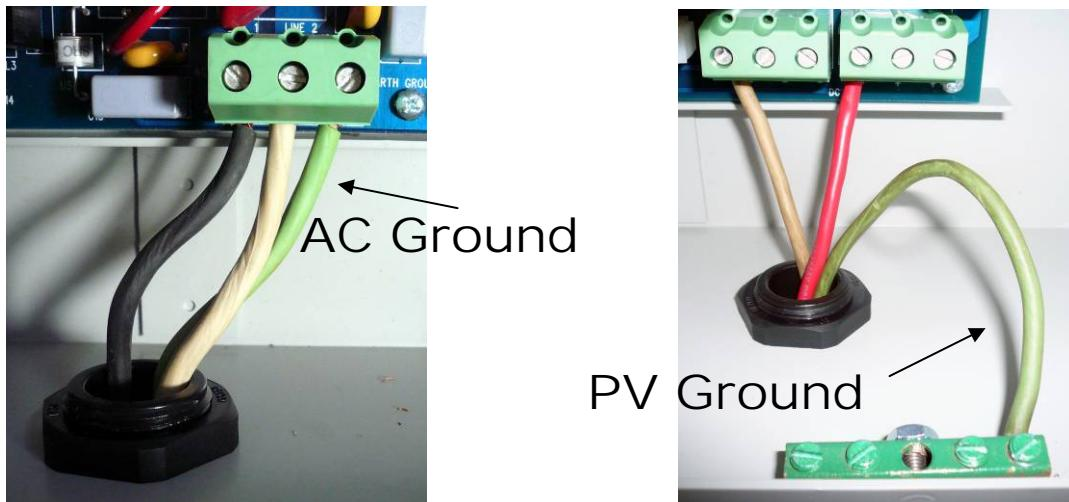

Figure 5: AC and PV Grounding
- Do not tie the safety ground to the PV array positive or negative. That would defeat the ground fault protection circuit. (Refer to Figure 5.)